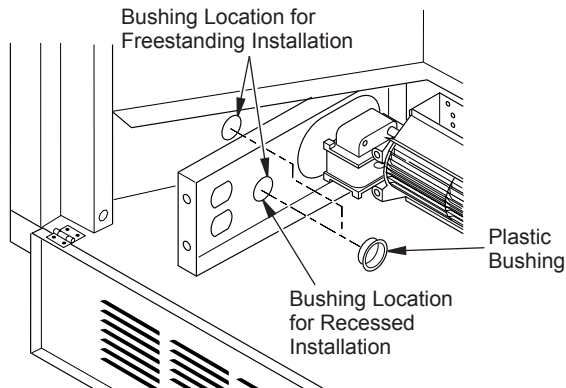

Figure 6 - Installing Bushings (Left Side Exit shown)
b. **If your fireplace system installation is recessed**, install one plastic bushing provided into the 1.5" hole near the middle of the left floor support bracket (see Figure 6). Route power cord through plastic bushing. Plug the power cord into a properly installed duplex outlet. (If an outlet is not installed in your fireplace, the accessory model GA3555 Outlet Kit with cover can be installed in your fireplace. This will supply a convenient three-prong grounded electrical outlet for your blower. Refer to the installation manual provided with the model GA3555 accessory for instructions on wiring the duplex outlet.)